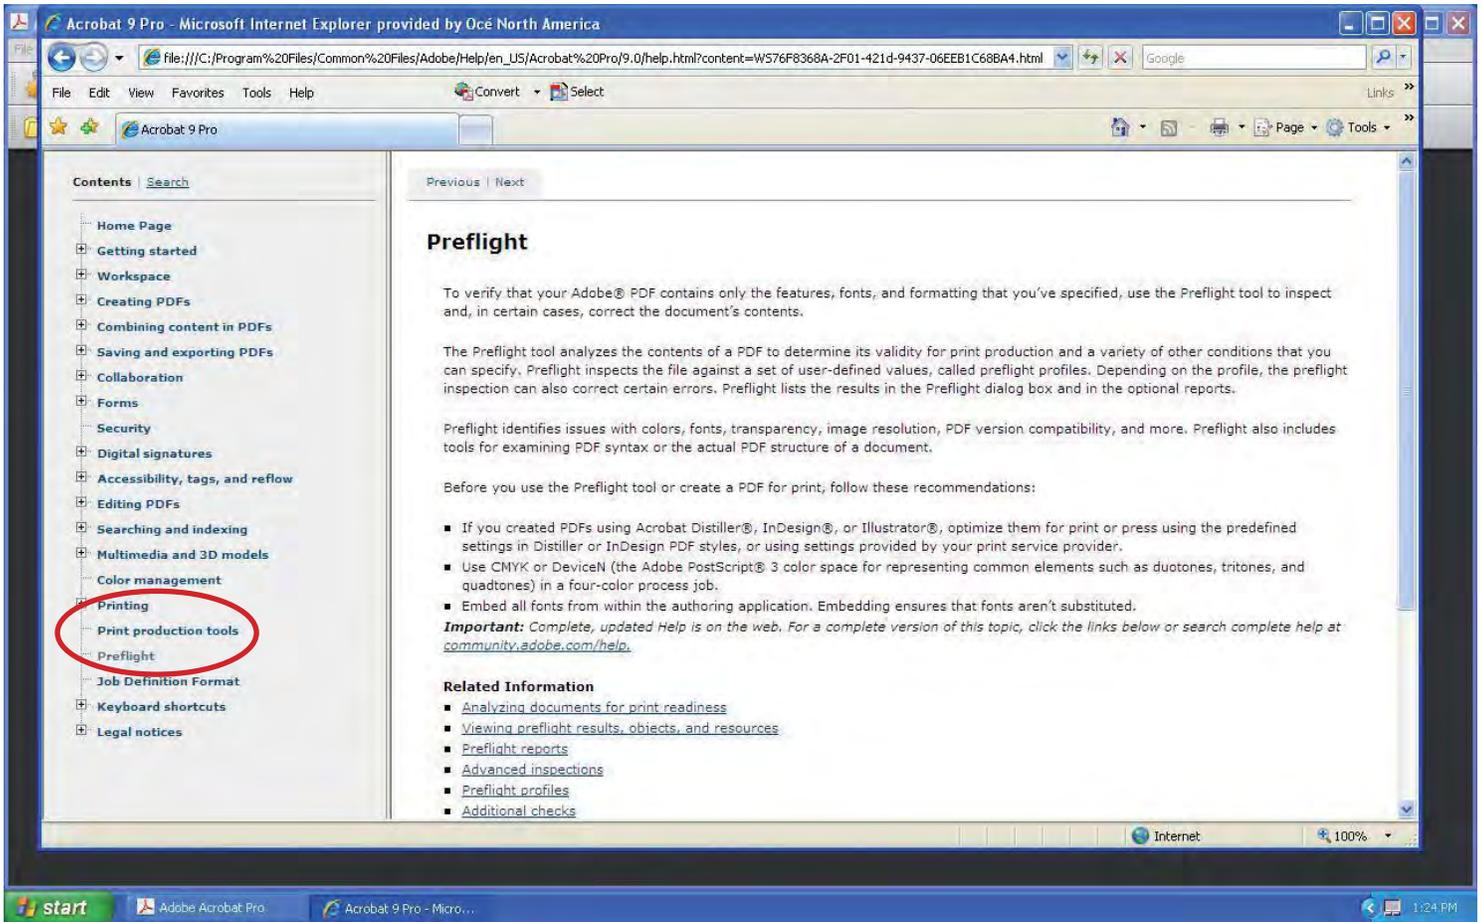

Fig. 2
3. Select Print Production Tools or Preflight from the Contents (Fig. 2).